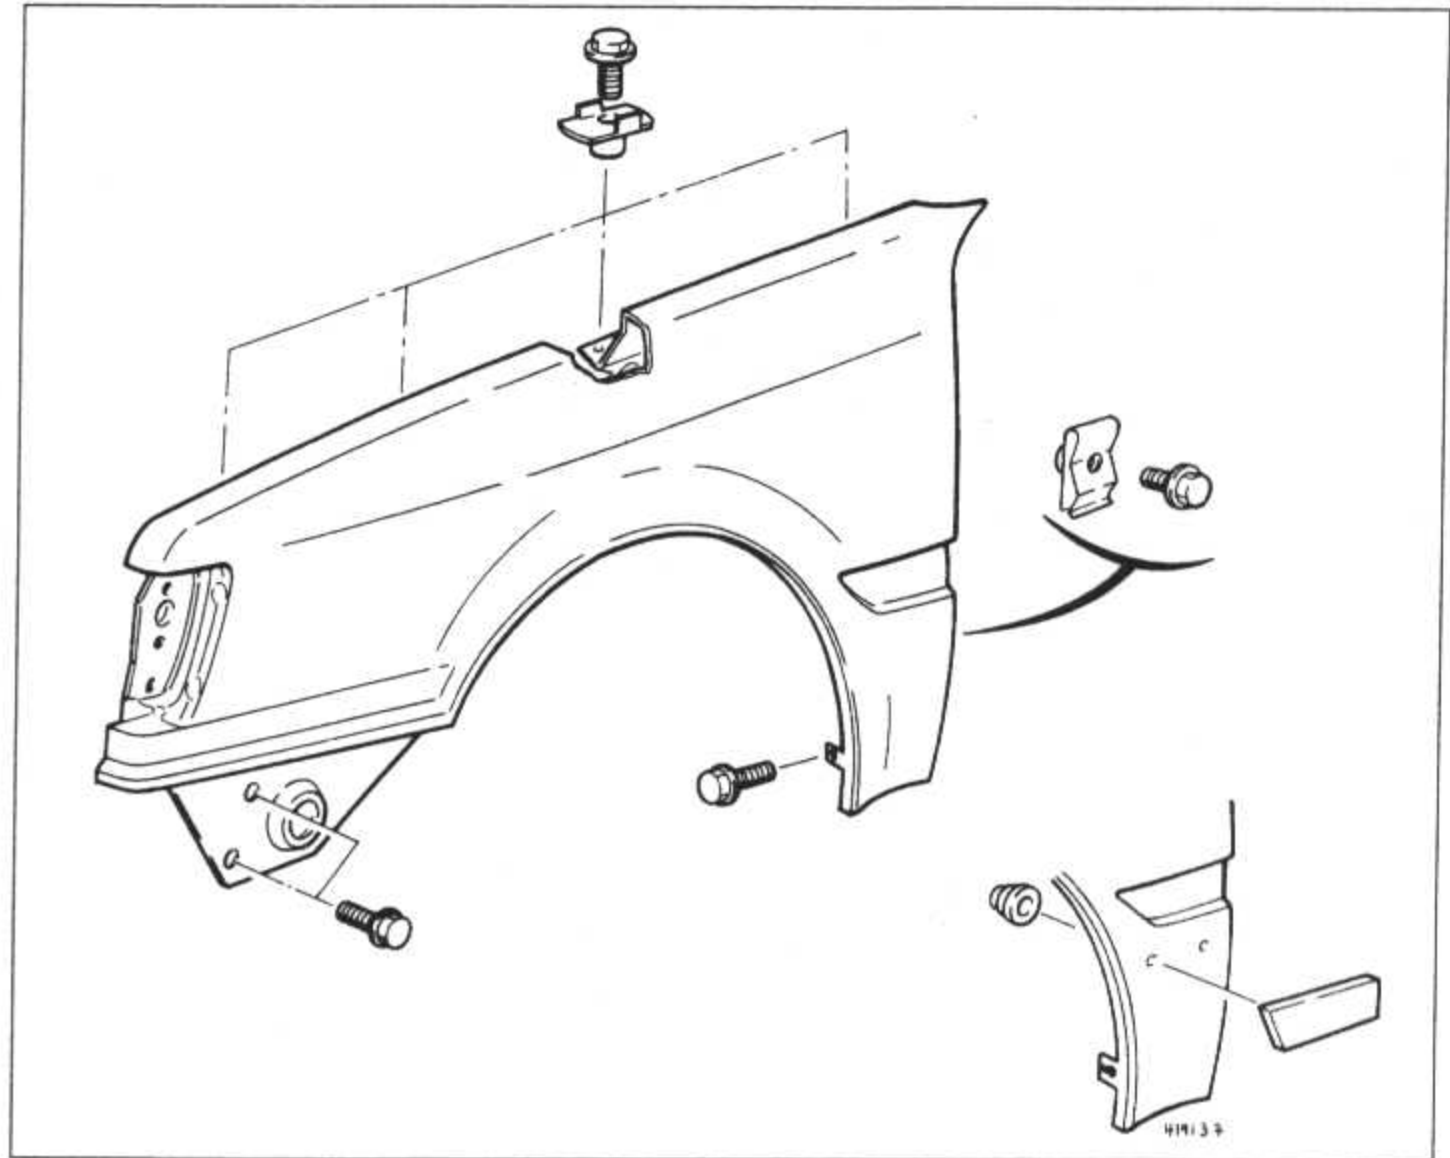

Fig. 11.3 Front wing panel and fittings (Sec 9)
- 3 Unscrew the mounting bolts located on the top flange, rear flange and inner rear lower edge of the wheel arch. Access to the rear flange is gained by opening the front door (Fig. 11.3).